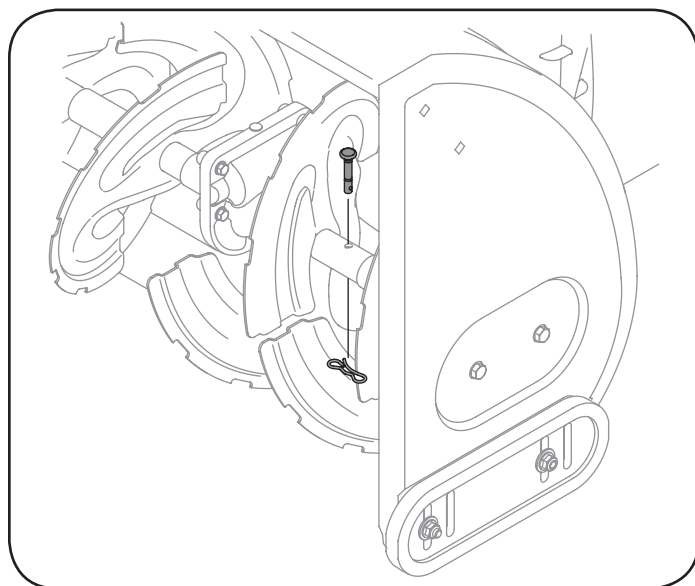

Figure 39
- The auger is secured to the spiral shaft using gold colored shear pins (OEM Part No. 738-04124A). See Figure 39.